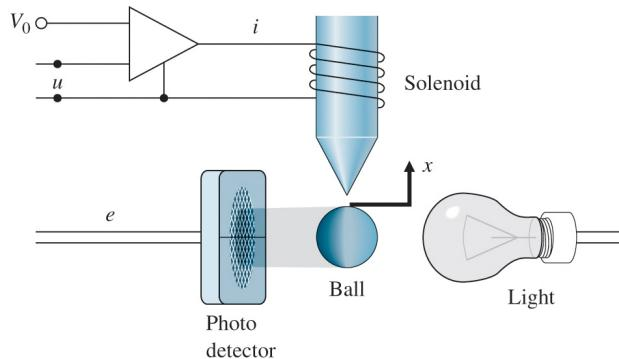

Fig. 5.60 Elementary magnetic suspension
28. An elementary magnetic suspension scheme is depicted in Fig. 5.60. For small motions near the reference position, the voltage e on the photo detector is related to the ball displacement x (in meters) by $e = 100x$. The upward force (in newtons) on the ball caused by the current i (in amperes) may be approximated by $f = 0.5i + 20x$. The mass of the ball is 20 g, and the gravitational force is 9.8 N/kg. The power amplifier is a voltage-to-current device with an output (in amperes) of $i = u + V_0$.